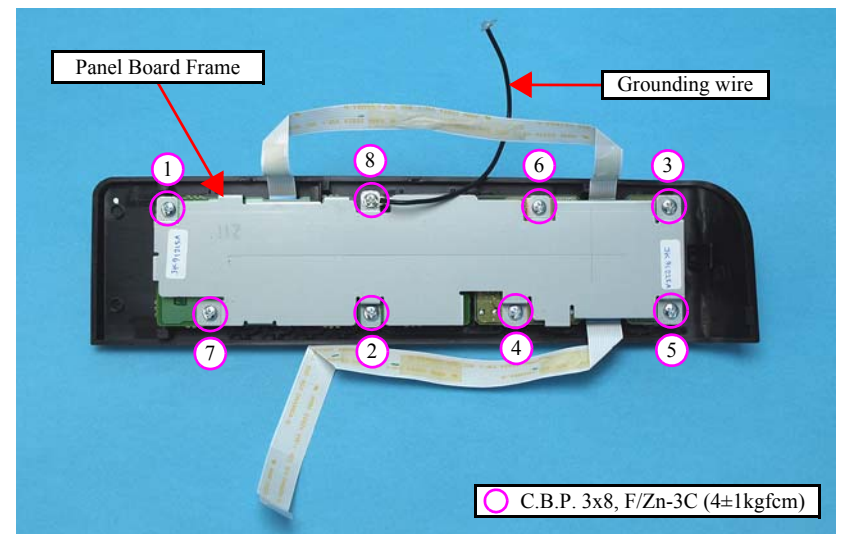

Figure 4-149. Removing the Panel Board Frame
- Tighten the screws in the order given in Figure 4-149. As for the screw # 8, secure the grounding wire together.